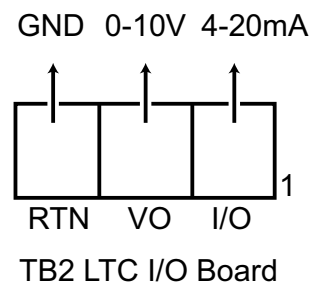

FIGURE 57 - OPTIONAL HEAD PRESSURE CONTROL OUTPUT
LTC I/O board terminal TB2-2 (VO) to TB2-3 (RTN) will provide 0-10VDC output in proportion to the command from the microprocessor for control. LTC I/O board terminal TB2-1 (IO) to TB2-3 (RTN) will provide 4-20mA output in proportion to the command from the microprocessor for control (see Figure 57 on page 59). The load connected to these terminals must meet the following specification: